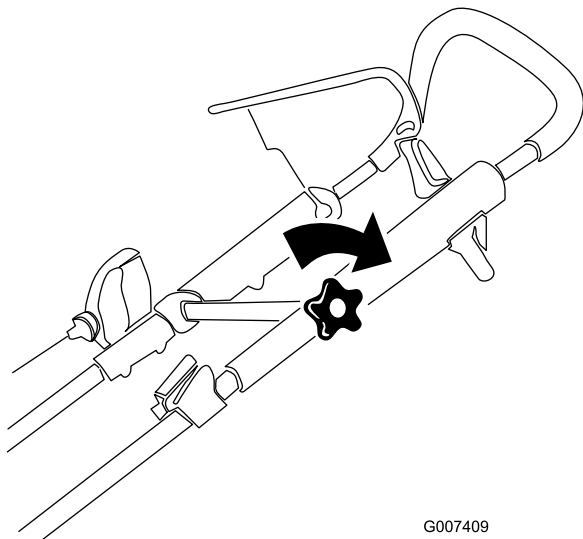

Figure 21
3. Tighten the upper handle knob as tight as you can (Figure 21).